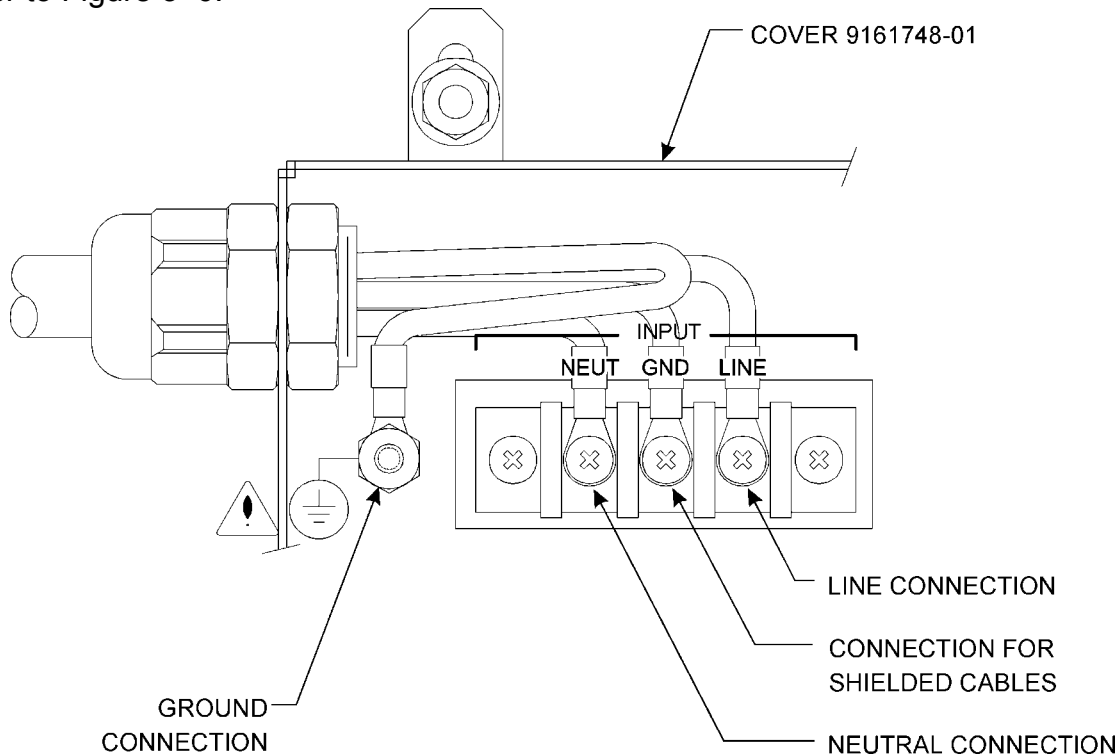

Figure 3–6 Input Power Connections
Connect input power to the INPUT terminal block on the rear panel as specified below. Refer to Figure 3–6.
3. Connect SAFETY GROUND to the GROUND stud located next to the INPUT terminal block. For additional safety, include a loop between the GROUND stud and the strain relief device, as shown in Figure 3–6.